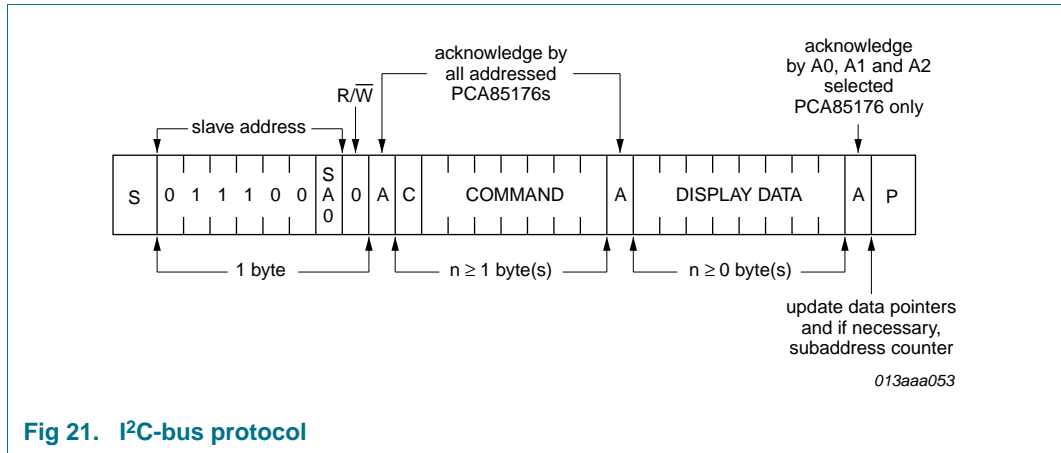

Fig 21. I2C-bus protocol
The I2C-bus protocol is shown in Figure 21. The sequence is initiated with a START condition (S) from the I2C-bus master which is followed by one of the two possible PCA85176 slave addresses available. All PCA85176 whose SA0 inputs correspond to bit 0 of the slave address respond by asserting an acknowledge in parallel. This I2C-bus transfer is ignored by all PCA85176 whose SA0 inputs are set to the alternative level.